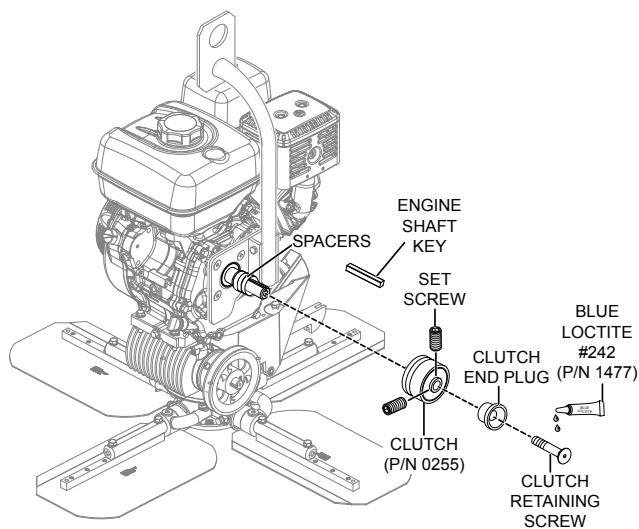

Figure 8. Clutch Installation
1. Place the clutch (P/N 0255) onto engine shaft (Figure 8) and slide back until flush with the spacers.
2. Apply Blue Loctite™ #242 (Figure 8) to the clutch retaining screw and insert into the clutch.